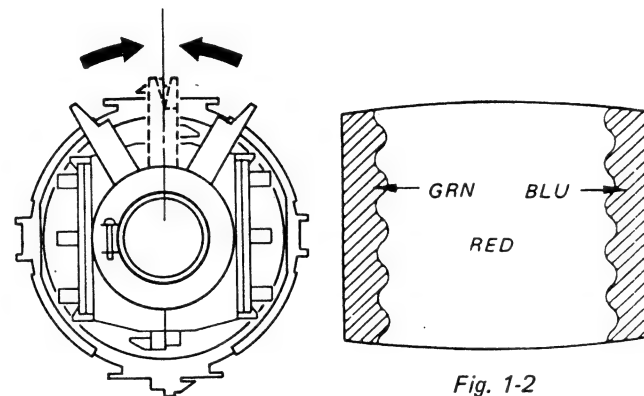

Fig. 1-1
- 3. Adjust purity control to center the slide between two projections as shown in Fig. 1-1.